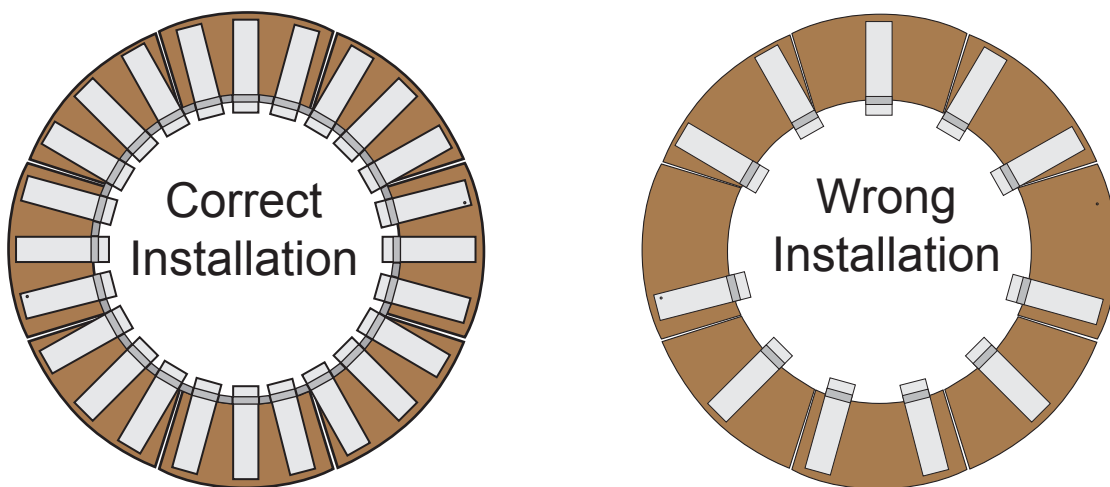

Fig. 5 FLEXFRAME round installation
STEP 3: Form or lay the FLEXFRAME inside the entire enclosure area. It is permissible to cut the FLEXFRAME to fit your enclosure, however, it is not permissible to only use “just enough” pieces to support a pan (See Fig. 5 and Fig. 6 for examples).